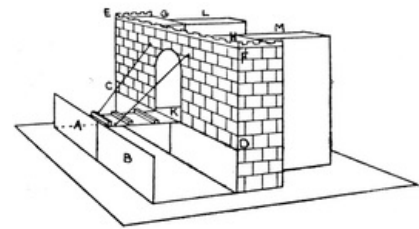

FIG. 112
**A Castle and Drawbridge** (Fig. 112). A and B are match-boxes, with the shorter sides cut off, gummed to a square piece of cardboard (4-inch side). Along the bottom of these a piece of blue paper is gummed to represent the water in the moat. C D F E is a piece of paper with archway cut out, gummed to sides of boxes A and B, and behind this are gummed match-box covers G and H. The drawbridge is a piece of stiff paper hinged to C D, and